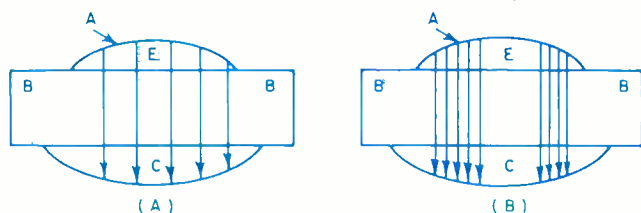

Fig. 5. (A) Uniform and (B) non-uniform current flow in power transistor. Latter condition may lead to second breakdown.
**Safe operating area:** Consider the transistor structure shown in Fig. 5. At low voltages (about  $0.1 V_{CEO}$ ) and moderate currents ( $0.5 I_{C(max)}$ ), uniform current flow exists between emitter and collector as shown in Fig. 5A. When either the voltage or current exceeds these figures, current flow will tend to localize, as shown in Fig. 5B. This can lead to the destruction of the transistor, a condition referred to as *second breakdown*.